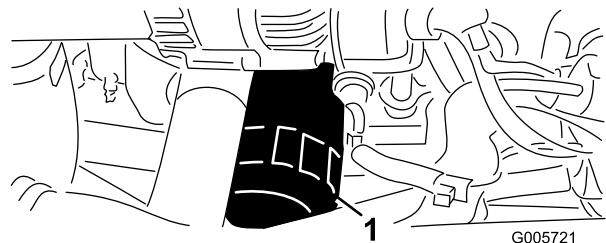

Figure 47
5. Remove and replace oil filter (Figure 47).